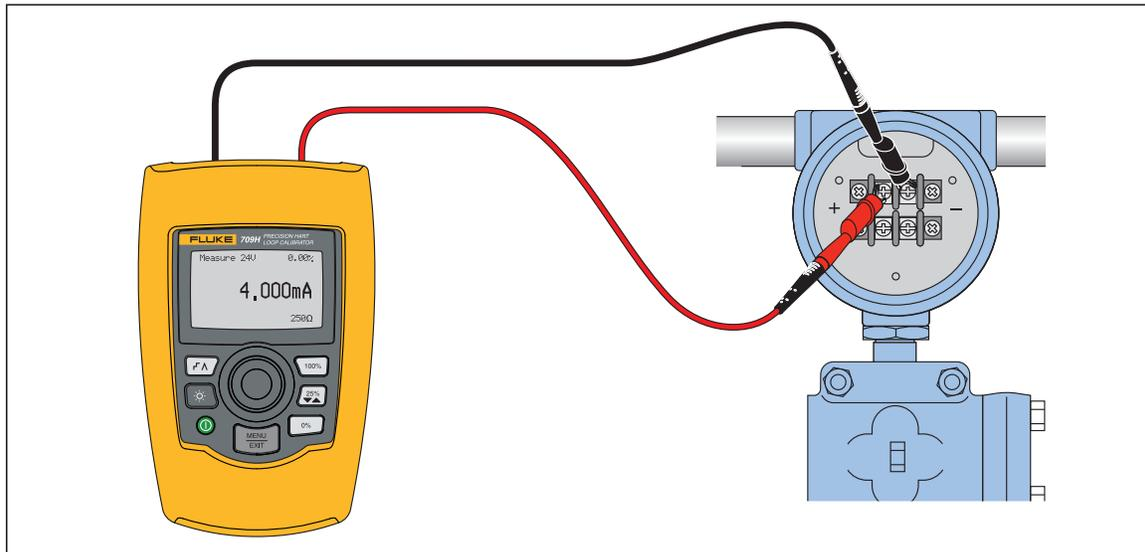

Figure 5. HART Transmitter Connections
3. Connect the red jack to the **+ HART** connection on a transmitter. Connect the black jack to the **- HART** connection on a transmitter. See Figure 5.